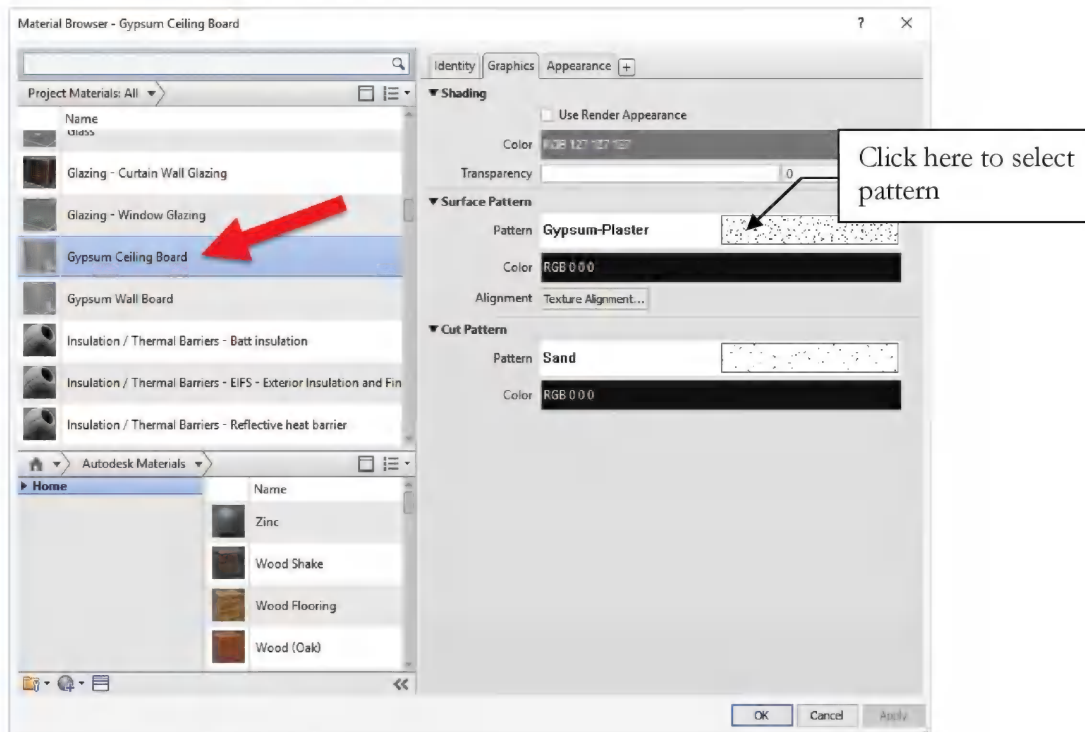

FIGURE 7-2.7 Materials dialog
19. In the *Surface Pattern* area, pick the down-arrow and select **Gypsum-Plaster** from the list, and then click **OK** (Figure 7-2.7).